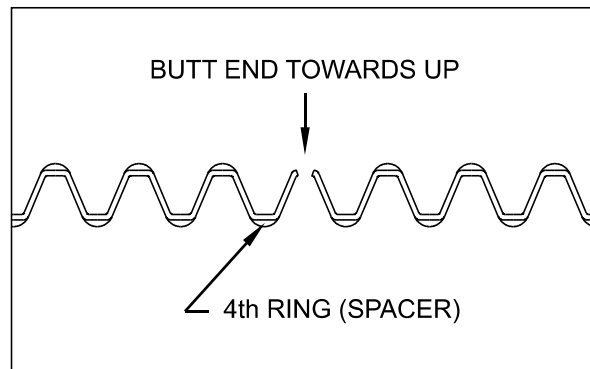

Fig. 3.98
- Assemble the 4th ring (spacer) in the third groove of piston in such a way that its triangle shaped end (butt end) facing upwards (triangle facing towards piston top). (Fig. 3.98)